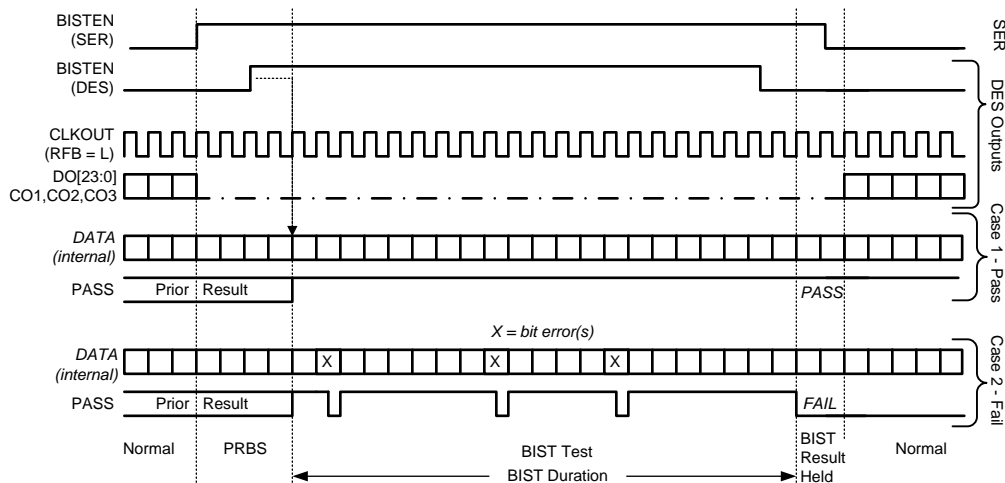

Figure 29. BIST Waveforms
Step 4: To return the link to normal operation, the Ser BISTEN input is set Low. The Link returns to normal operation. Figure 29 shows the waveform diagram of a typical BIST test for two cases. Case 1 is error free, and Case 2 shows one with multiple errors. In most cases it is difficult to generate errors due to the robustness of the link (differential data transmission etc.), thus they may be introduced by greatly extending the cable length, faulting the interconnect, reducing signal condition enhancements (De-Emphasis, VODSEL, or Rx Equalization).